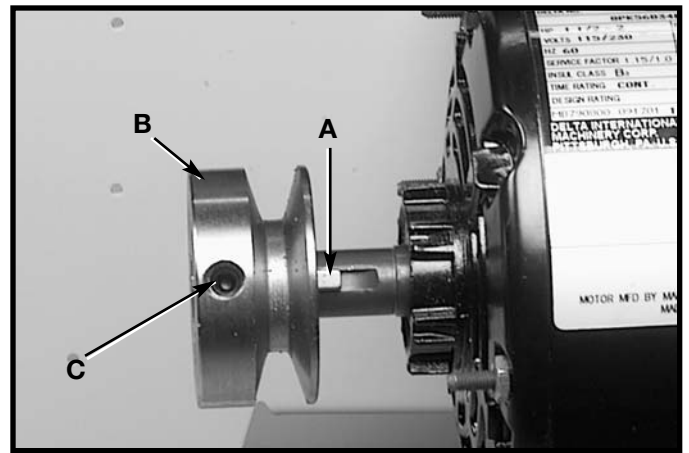

Fig. 15
2. Insert the key (A) Fig. 15 in the keyway on the motor shaft. Assemble the motor pulley (B) on the motor shaft with the hub of the pulley facing out. **Tighten set screw (C).**